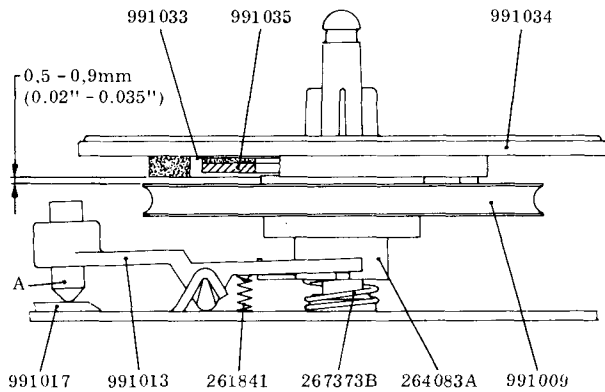
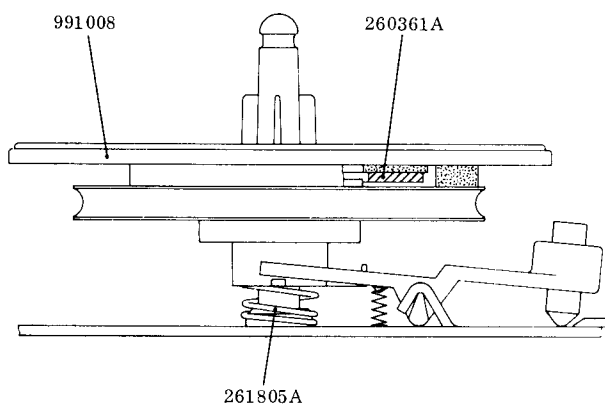

Fig. 2.1.
Fig. 2.5.
between the polyurethane friction pads under the turntable and friction disc 991009 lays between 0,5—0,9 mm (0.02"—0.035"). If necessary, adjust screw A as shown in fig. 2.1.
The torque is read in table fig. 2.3, pos. 3. If the torque deviates from the specifications in the table, check and, if necessary, alter the pressure of spring 261805A. See fig. 2.5.
The difference between Fast Winding Torque and Fast Reverse Winding Torque should be less than 130g (measured at 30 mm radius), or 50g (measured at 80 mm radius). If necessary, alter the pressure of spring 261805A (fig. 2.5), or spring 267373B (fig. 2.1).